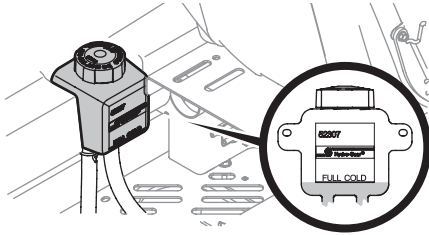

Figure 42
1. Pivot the operator's seat forward and clean the reservoir cap and the area around the cap to prevent debris from contaminating the transmission oil (Figure 42).
2. Turn the reservoir cap counterclockwise to remove, then check the oil level in the reservoir. Oil should be visible at the bottom of the cup, but the oil level must NOT be above the "FULL COLD" line (Figure 42). DO NOT FILL THE RESERVOIR.